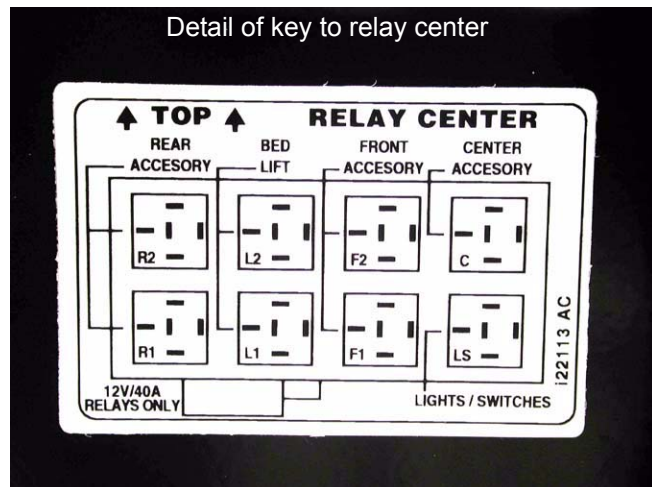

Figure 3.3
- 3.3. One relay in this block is used by the original equipment. The rest of the sockets accommodate pre-wired accessories. See Figure 3.3.